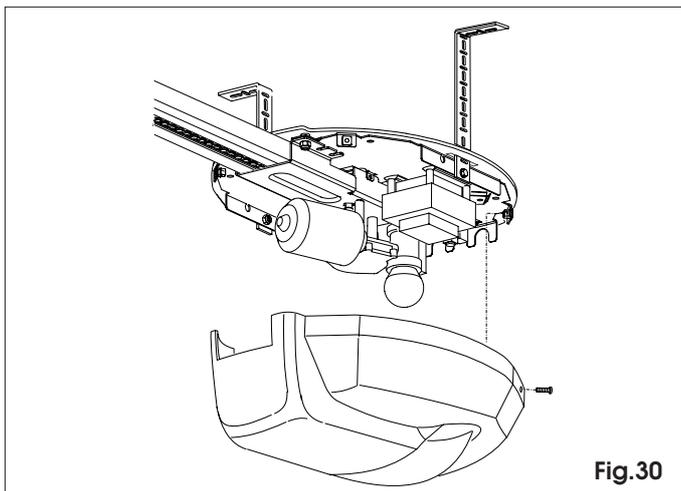

Fig.30
Connect the system's earth wire to the dedicated terminal (see ID sticker - fig.30 ref.A).
9.6 Secure the operator housing using appropriate screws (fig.30).